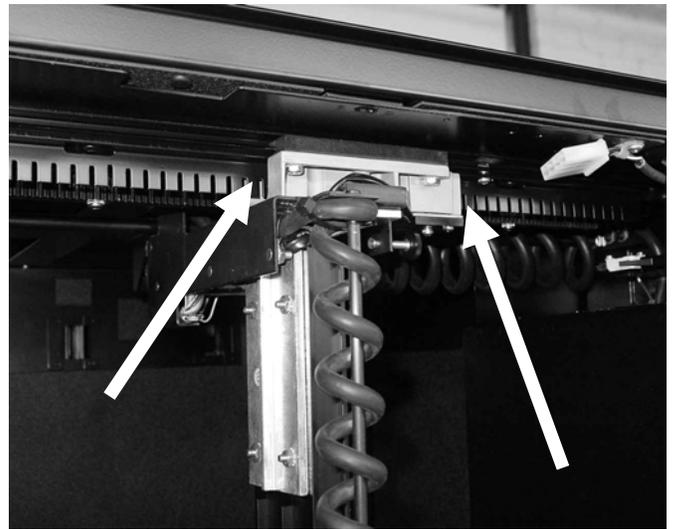

Figure 3
B. Loosen the 3 screws securing the x timing bar to the top of the cabinet interior. (fig. 3) Move the x sensor bar the direction that the shuttle needs to move to be aligned with the left edge of rib 2.
| Upper x bar slide assy. (See Fig.3) | | | | | | |